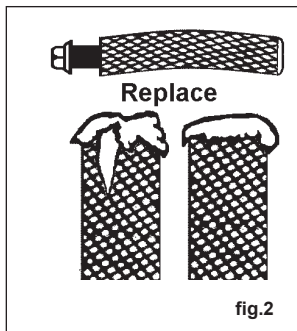

fig.2
- x **DO NOT** use the driver if it is bent, chipped, has a mushroom head or is otherwise damaged (fig.2).